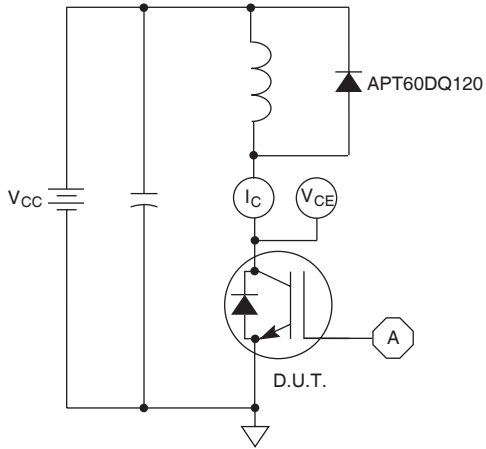

Figure 21, Inductive Switching Test Circuit
① Repetitive Rating: Pulse width limited by maximum junction temperature.
② For Combi devices, I_{ces} includes both IGBT and diode leakages
③ See MIL-STD-750 Method 3471.
④ E_{on1} is the clamped inductive turn-on energy of the IGBT only, without the effect of a commutating diode reverse recovery current adding to the IGBT turn-on loss. Tested in inductive switching test circuit shown in figure 21, but with a Silicon Carbide diode.
⑤ E_{on2} is the clamped inductive turn-on energy that includes a commutating diode reverse recovery current in the IGBT turn-on switching loss. (See Figures 21, 22.)
⑥ E_{off} is the clamped inductive turn-off energy measured in accordance with JEDEC standard JESD24-1. (See Figures 21, 23.)